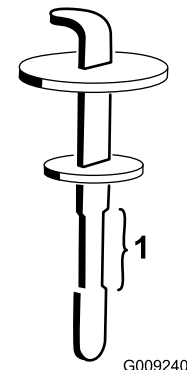

Figure 88
4. Remove the dipstick from the filler neck and wipe it with a clean rag. Insert the dipstick into the filler neck; then remove it and check the fluid level. The fluid level should be within the safe operating range on the dipstick (Figure 88).